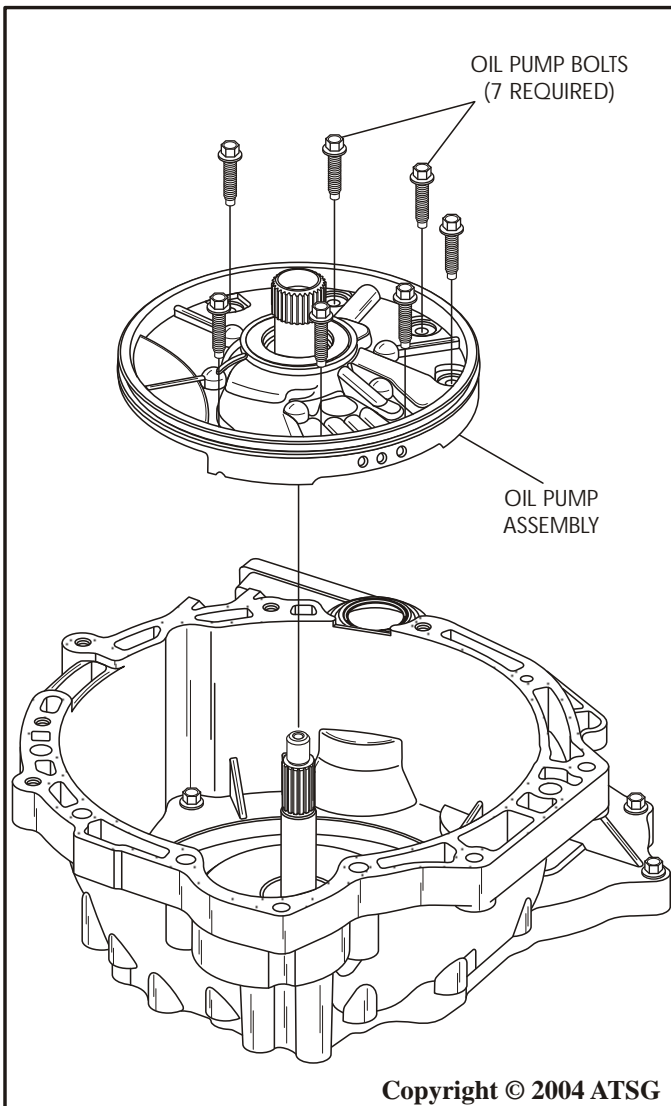

Figure 187
68. Install the completed oil pump assembly, as shown in Figure 187.